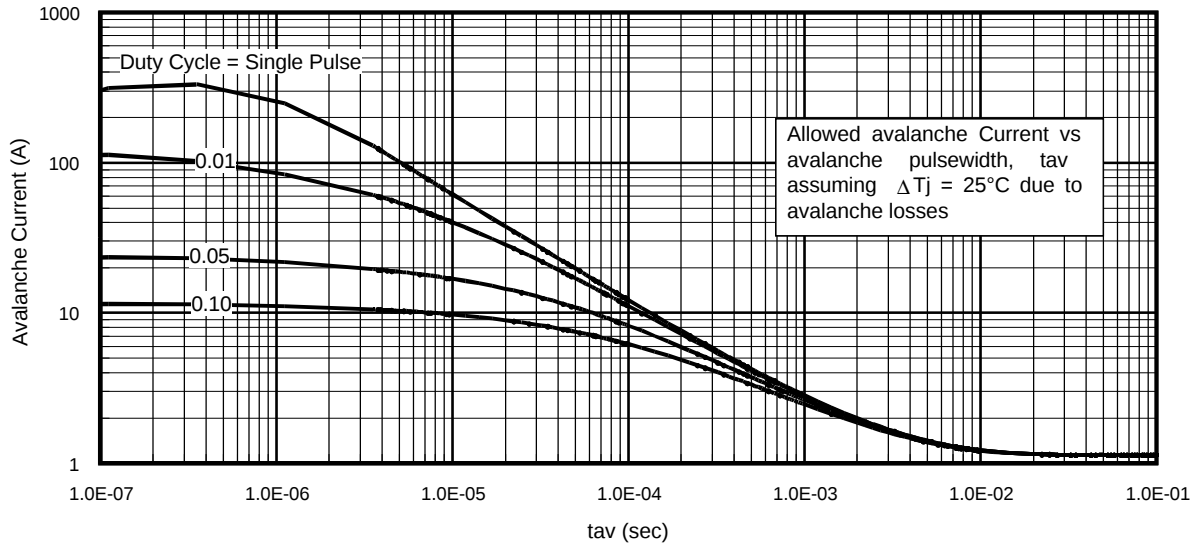

Fig 15. Typical Avalanche Current vs. Pulsewidth
**Notes on Repetitive Avalanche Curves , Figures 15, 16:
7.  $\Delta T$  = Allowable rise in junction temperature, not to exceed  $T_{jmax}$  (assumed as 25°C in Figure 15, 16).